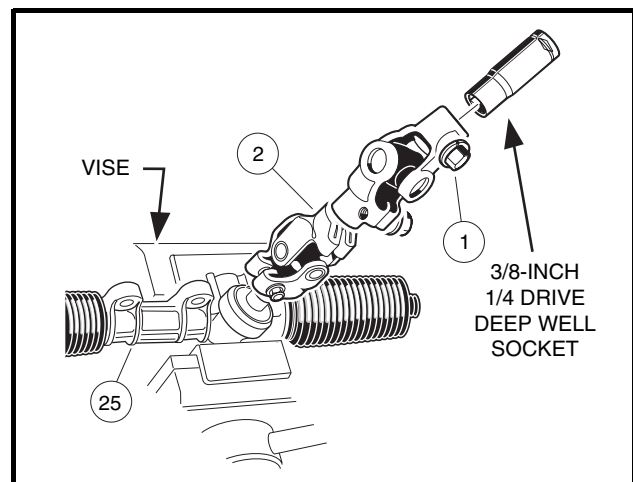

Figure 7-14 Rack and Pinion Resistance
- 12.2. Insert a 3/8 inch deep well socket into the steering column end of the universal joint (2) and tighten the bolt (1) to 15 ft-lb (20.3 N·m) (**Figure 7-14, Page 7-11**).